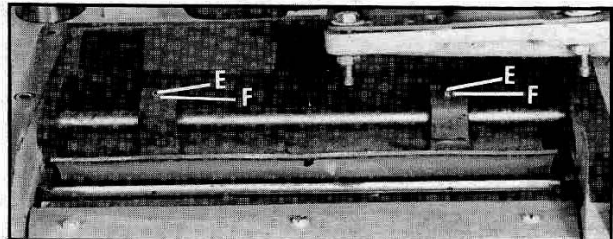

Fig. 56
5. If an adjustment to the chipbreaker is necessary, loosen nuts (F) Fig. 56, and turn screws (E) until bottom of chipbreaker just touches gage block. Then tighten nuts (F).